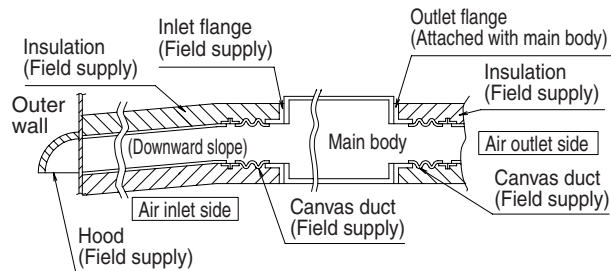

Fig. 14
- Connect the duct (field supplied) as shown below. (Refer to Fig. 14)